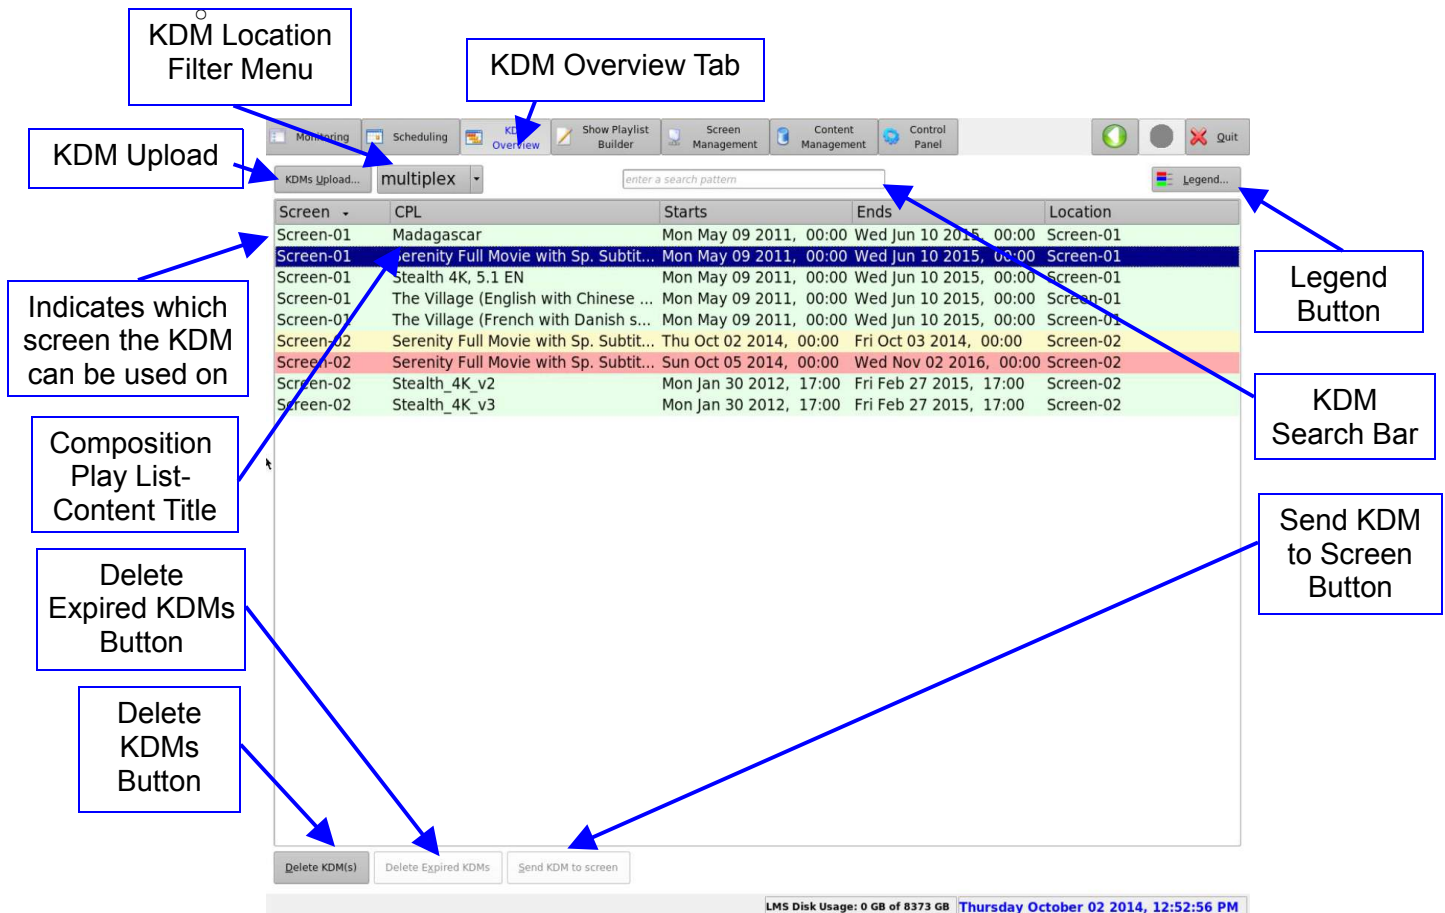
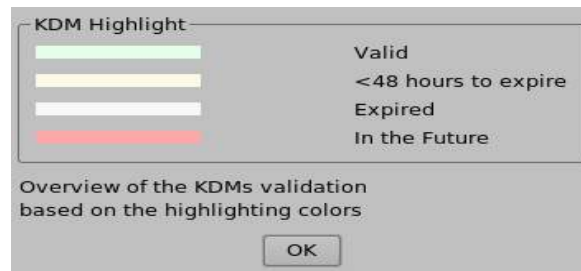
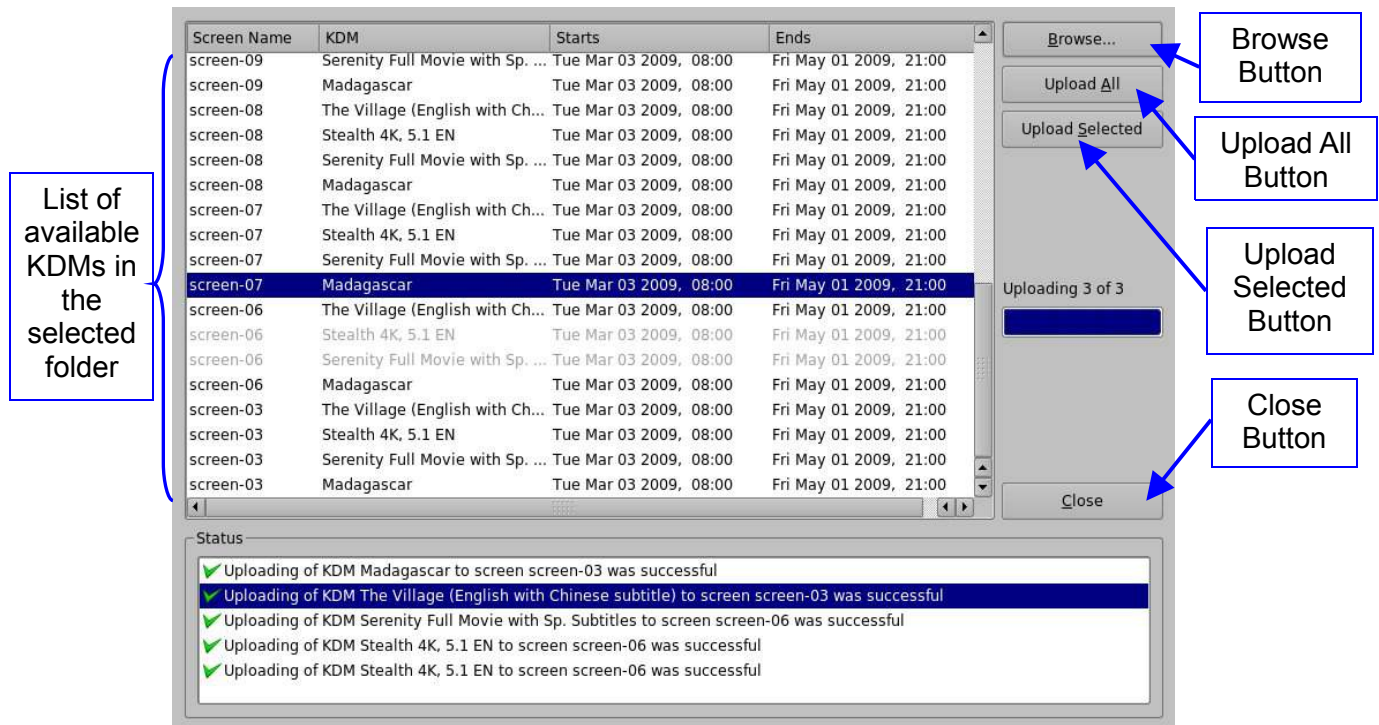

Figure 42: KDM Overview Tab
Figure 43: KDM Highlight Window
Figure 44: KDM Upload Window
- The first column indicates on which screen the KDM can be used, and the next columns indicate the Content Title of the corresponding Composition Playlist. It also indicates the start and end dates of the KDM validity window (Figure 42).
- The following color significance (Figure 43) is available by clicking the Legend button (Figure 42).
- To delete a KDM, select it in the KDM list and click the Delete KDM button (Figure 42).
- To delete all expired KDMs, click the Delete Expired KDM button (Figure 42).
- The KDMs Upload button (Figure 42) allows for ingestion of KDMs from the TMS (USB or local directory). Use the Browse button to select the folder from which to ingest the KDMs (Figure 44).